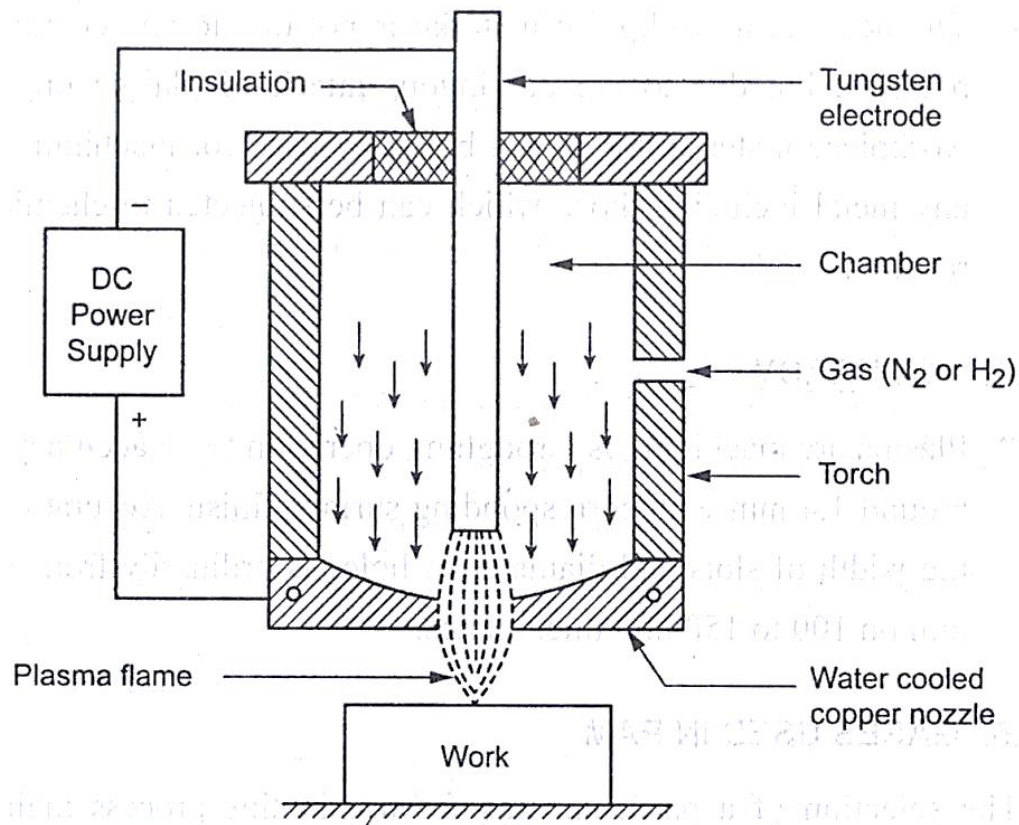

Fig: 5.10 Working Principle and Process Details of PAM
- ✓ The schematic arrangement of plasma arc machining is shown in Fig.5.10.